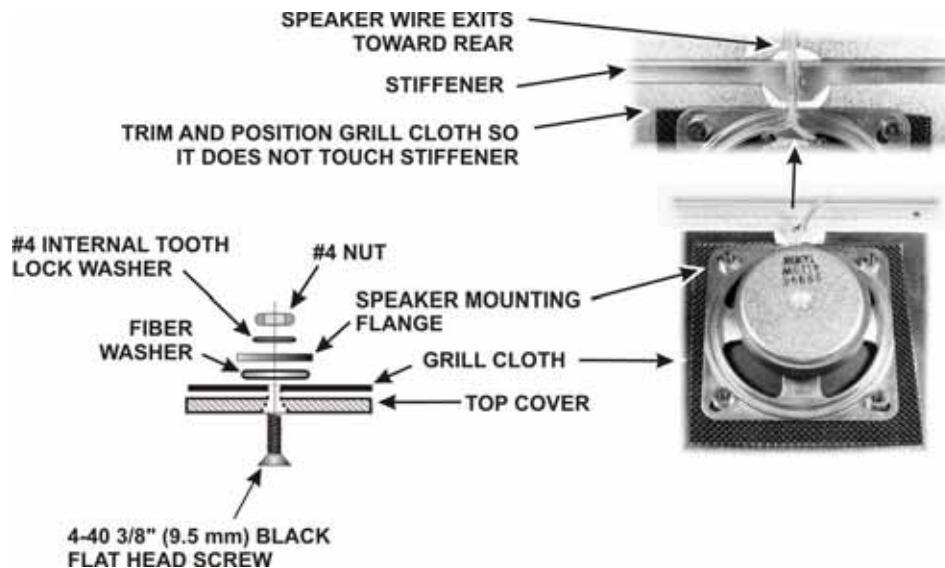

Figure 76. Mounting Loudspeaker.
- Trim the grill cloth to cover the speaker grill openings and overlap the four holes for the loudspeaker mounting screws. Mark and cut four holes in the grill cloth for screws to pass through the cloth. The grill cloth is shown as it must fit after the speaker is mounted in Figure 76. If you install the KPA3 100-watt amplifier, the stiffener will be attached to the chassis and cannot be removed with the cover. In that case, the grill cloth must be trimmed as shown so it cannot become trapped between the chassis stiffener and the top cover.
Mount the speaker using the hardware shown in Figure 76. A suggested procedure for doing this is as follows: